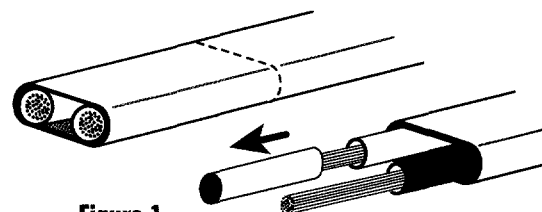
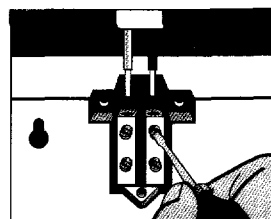

Figure 1
Figure 2
2. Connect the cables to the low voltage terminal block located behind the cover plate on the back panel. Remove cover plate. Remove insulation off each strand (see figure 1) (the cable is supplied with the outer cover and strand insulation pre-cut for convenience). Insert the copper wires down into each terminal slot. It makes no difference which wire goes to which slot. Tighten screws securely. (see figure 2)